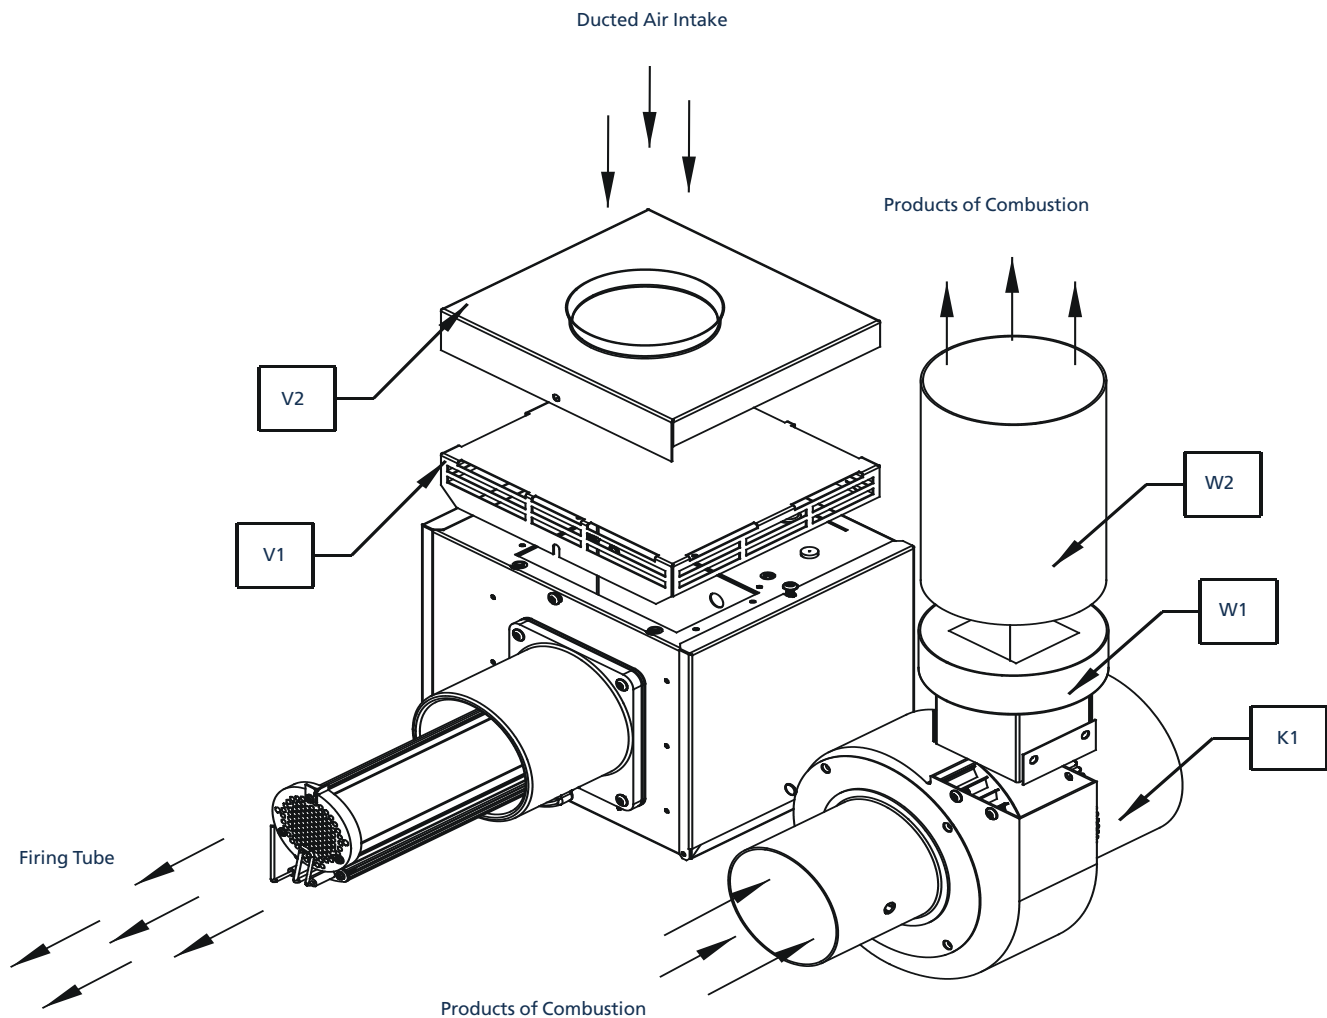
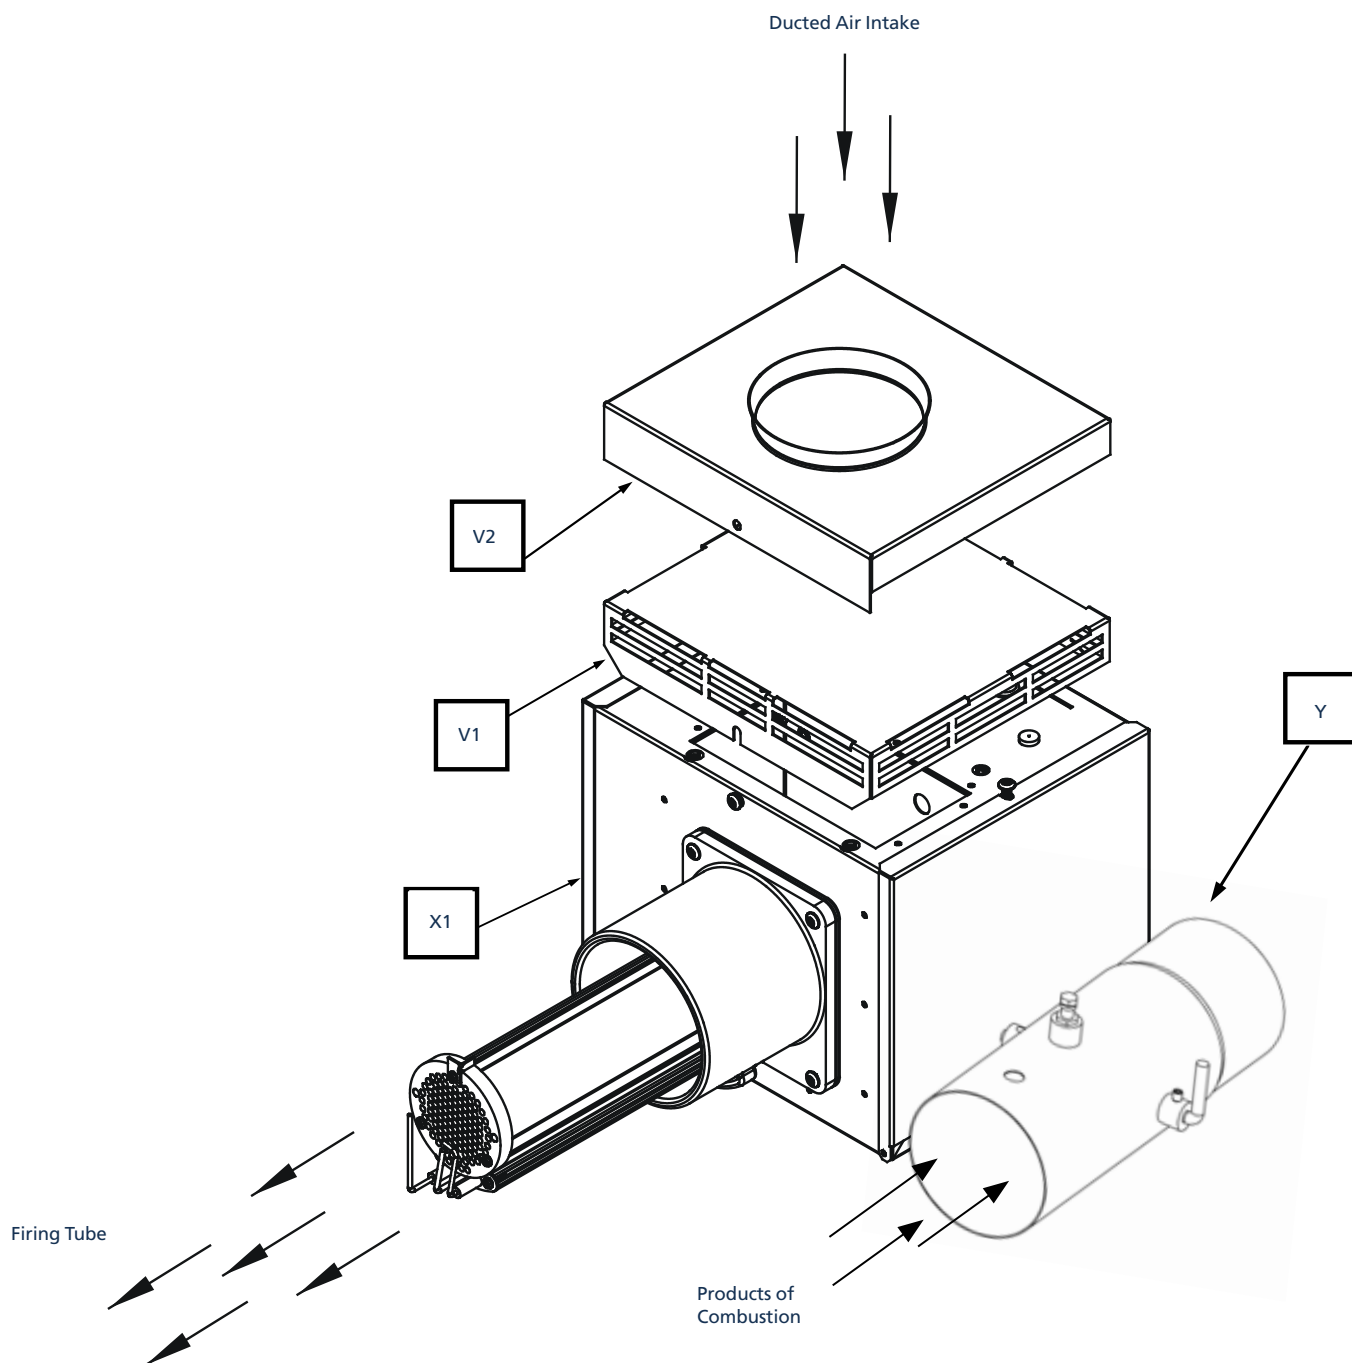

Figure 18. Option 1. Flue Attachment Induced Burners (VSUTE)
Figure 20. Option 3. Flue Attachment Induced Burners (VSLHE)
flue and combustion air inlet options in Figure 18 to Figure 20:
- Option 1 - For induced burner with / without flue and / or optional ducted air inlet refer to Figure 18.
- Option 3 - For herringbone heaters refer to Figure 20 on page 20 & section 1.7 on page 9 Herringbone Systems (UHE/LHE).